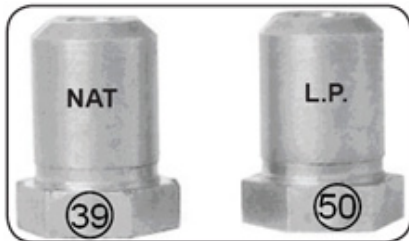

Fig.5
- Replace the orifice fittings into the valve. **NOTE:** Unit number is on the side of orifice fittings (Fig.5).